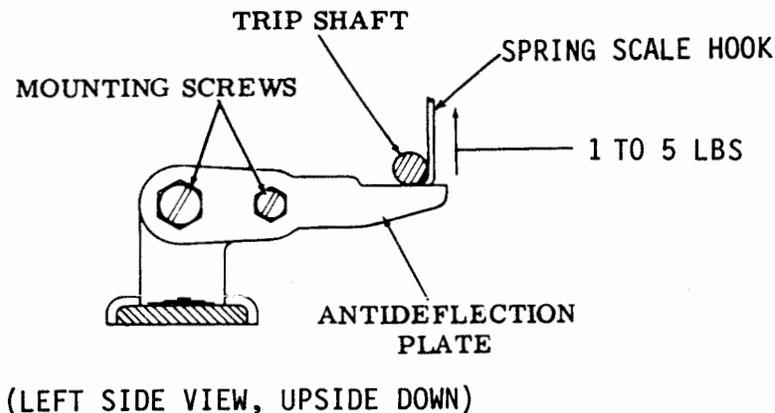

Figure 6-238. Antideflection Plate
- figure 6-238.
- (a) Refer to figure 6-238.